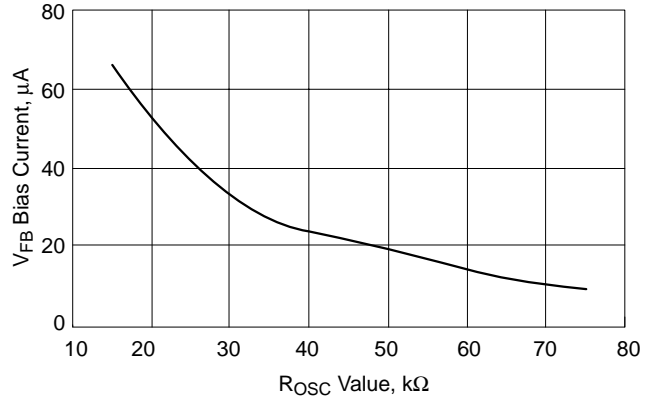

Figure 4. VFB Bias Current vs. ROSC Value
2. The  $V_{\text{FB}}$  Bias Current changes with the value of  $R_{\text{OSC}}$  per Figure 4.
To set the no–load positioning a resistor (R9) is placed between the output voltage and  $V_{FB}$  pin. The  $V_{FB}$  bias current will develop a voltage across the resistor to decrease the output voltage. The  $V_{FB}$  bias current is dependent on the value of RO $SC$ . See Figure 4 on the datasheet.